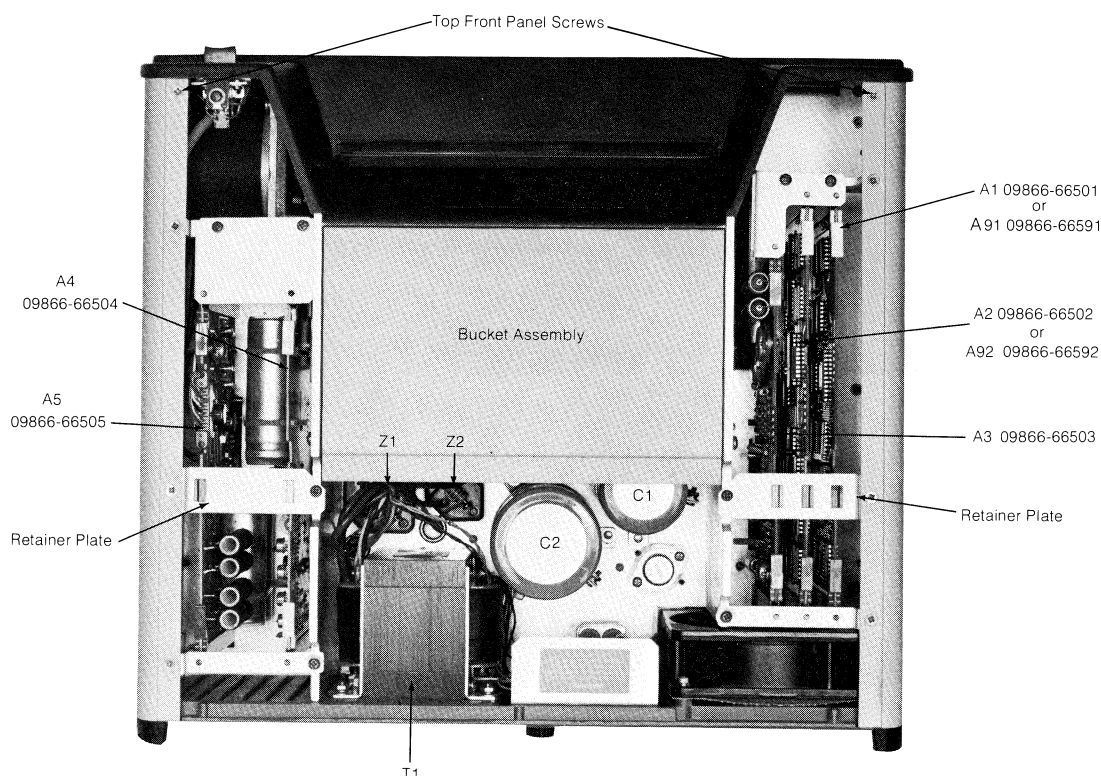
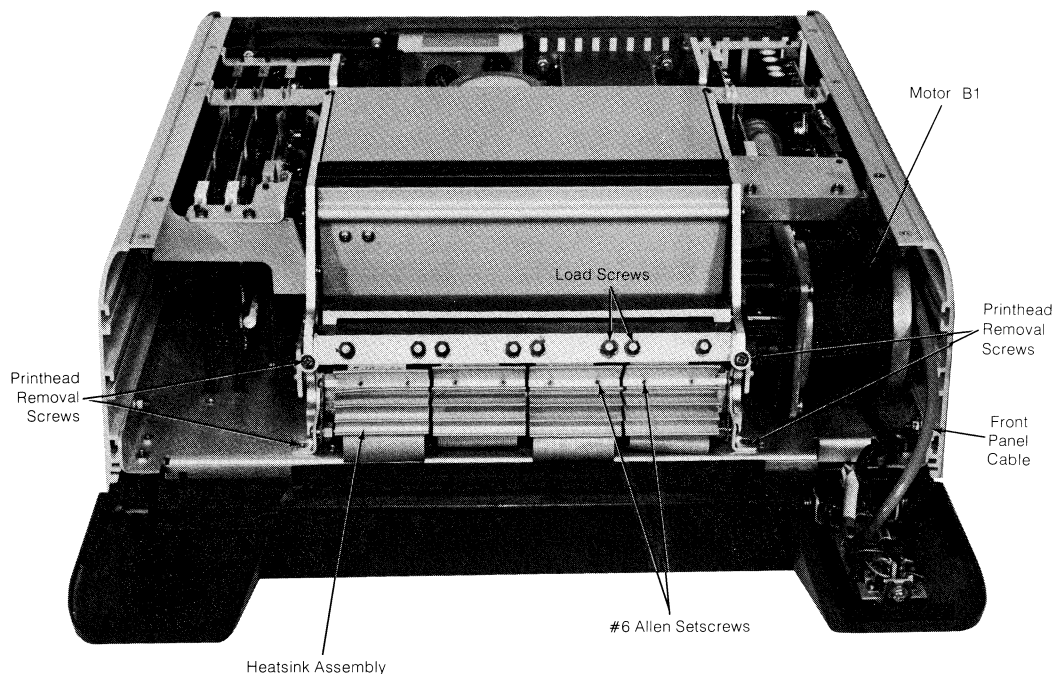

Figure 3-1. Upper Printer Assemblies
Figure 3-3. Removing the Print Head Assembly
Most of the printer assemblies may be accessed by removing the three screws which are located at the back of the top cover, then removing the top cover. The removal of the two PC assembly retainer plates (Figure 3-1) allows the removal of any PC assembly which is contained in the upper portion of the instrument (A1 or A91, A2 or A92, A3, A4 and A5).
2. Loosen the two screws in the top-front and bottom-front of the instrument which attach the front panel to the chassis (see Figures 3-1 and 3-2); then pull the front panel out and to the side of the instrument. This provides access to the print head assembly (Figure 3-3).
3. Remove the two screws in the bottom-front and top-front of the print head assembly (see Figure 3-3). Then, lift the print head assembly upward until the four print head cables are extended. Use a small screwdriver (e.g., a #1010) to disconnect the four connectors from the A6 assembly. The screwdriver should be inserted into the slot in the front of each connector and gently turned until the connectors are forced apart.
5. Loosen the two associated #6 set screws (see Figure 3-3).
2. Loosen the eight load screws (see Figure 3-3) approximately three turns.